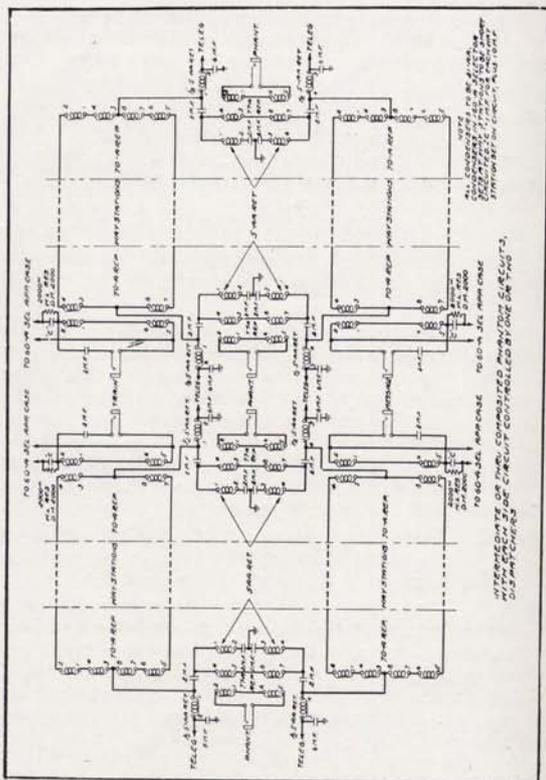

FIG. 14
4. Two selector circuits to be used as side circuits for obtaining a composited or simplexed phantom with the physical and phantom telephone and the telegraph circuits terminated at the same or different points. Figure 14 shows a general way of obtaining these conditions.
A general arrangement for operating four selector circuits from one point with a composited phantom in each direction is shown in figure 14.